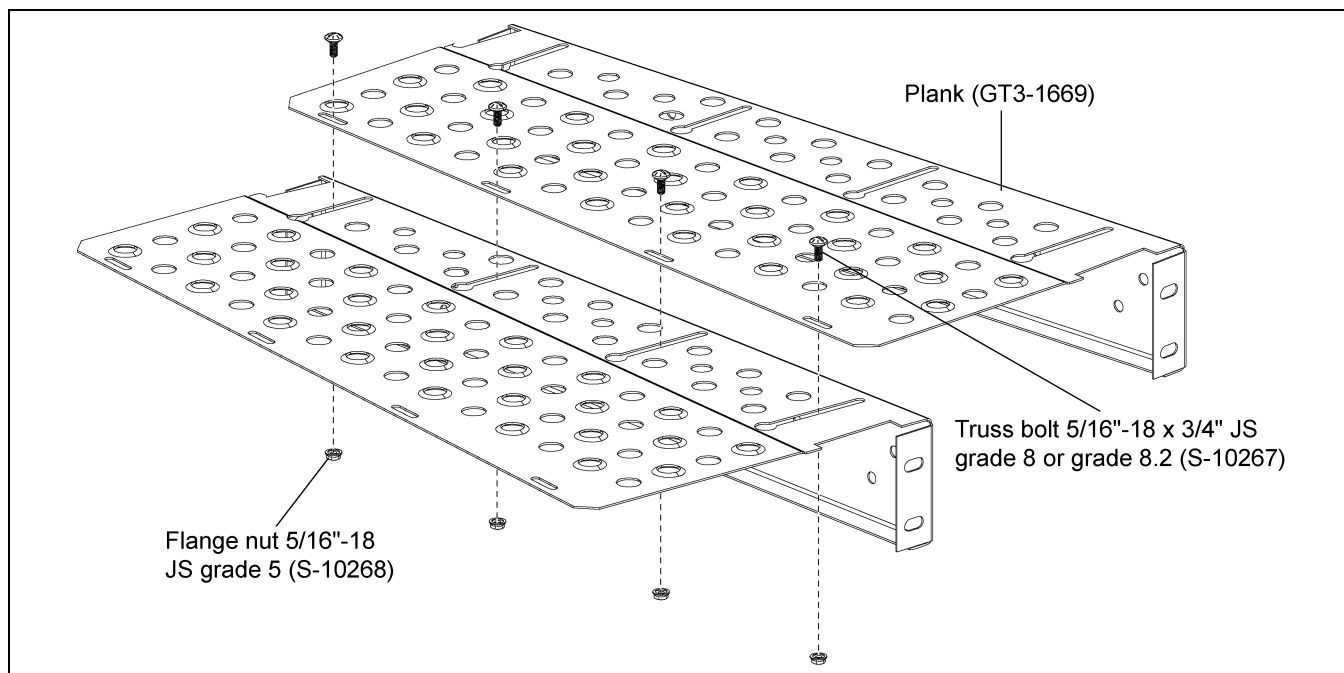

Figure 6P
4. Each plank should be overlapped at the edges and bolted with 5/16"-18 x 3/4" JS grade 8 or grade 8.2 bolts (S-10267) and 5/16"-18 x 3/4" JS grade 5 nuts (S-10268). (See Figure 6P and Figure 6Q.)